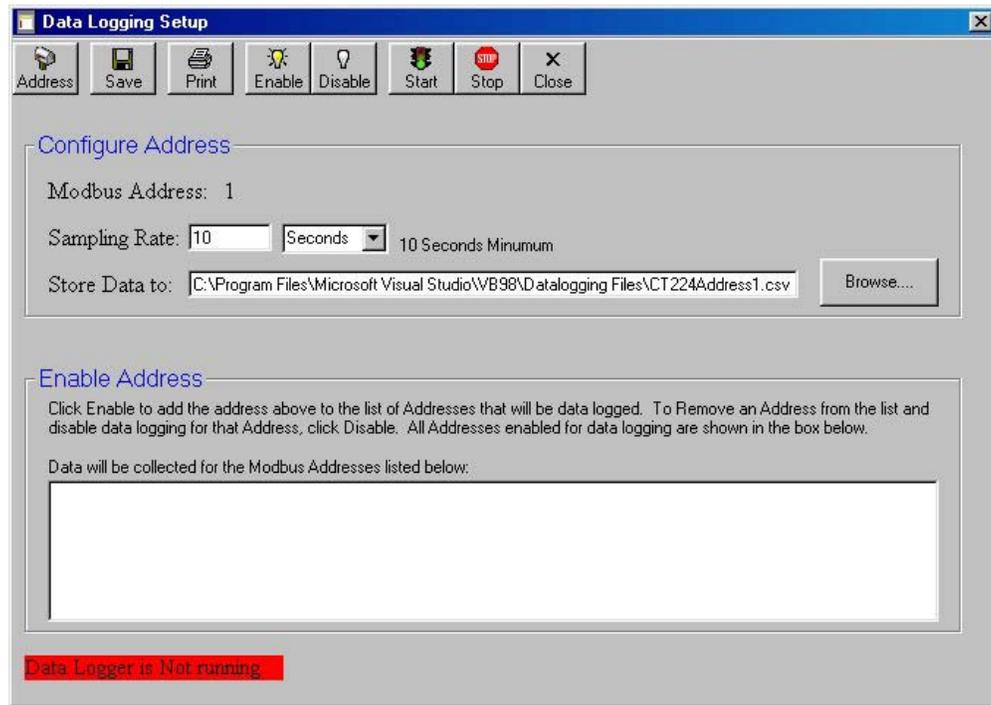

Figure 11
1. Select Functions → Data Logging Setup to configure the data logging settings. The screen in Figure 11 will appear.